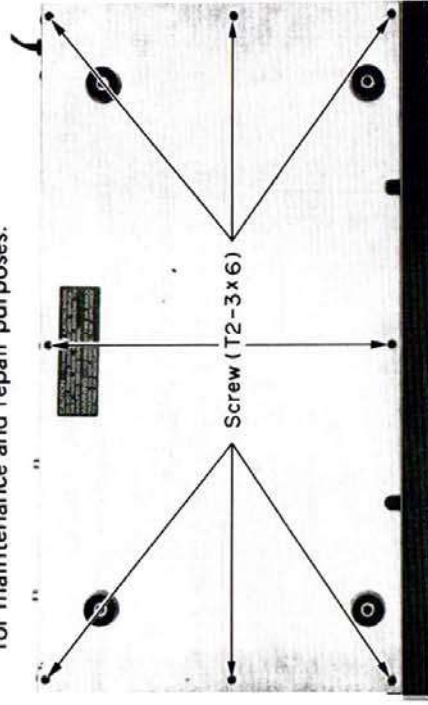

Fig. 2
- 1) Remove the 8 screws shown in Fig. 2.